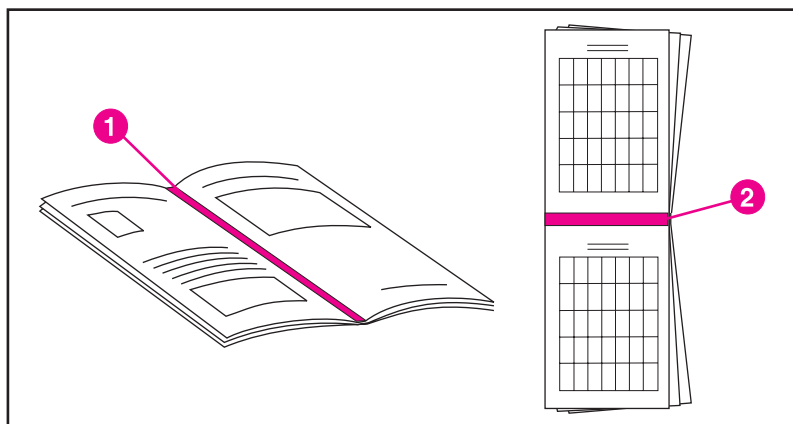

Figure 3-4 Binding Options
- 6 Press **VALUE** to select either LONG EDGE or SHORT EDGE binding (see figure 3-4).
- *Long-edge (book) binding*, which is the conventional layout used in book binding. (See 1 in figure 3-4)
- *Short-edge (tablet) binding*, which is the type often used with calendars. (See 2 in figure 3-4)